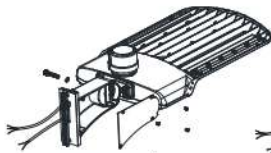

Figure 5
Step 1: Remove the bracket mounting screws on the fixture, open the side lid of bracket and run the wires through the bracket. (Figure 5)